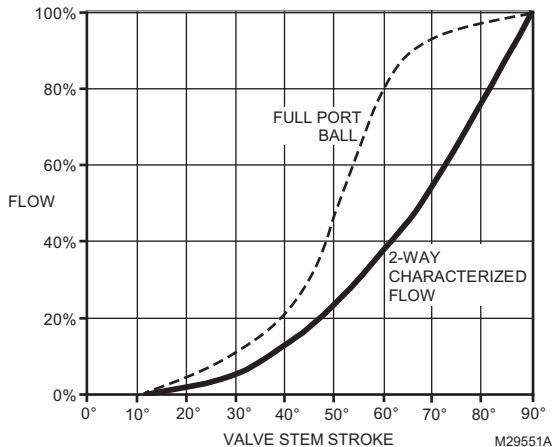

Fig. 33. Typical flow characteristics.
- With modulating actuator, limit span of control voltage issued by the building automation controller. Valves with flow control inserts have an equal percentage flow characteristic (See Fig. 33). Each 10% reduction in maximum control voltage will result in a 10% reduction in flow.
- To mechanically limit stroke, set DCA to full open position. Loosen shaft coupling and rotate valve shaft to desired maximum flow position, as confirmed by pressure measurement across coil, using coil manufacturer's data. Retighten shaft coupling. Use Fig. 33 as a guide to setting actuator stroke.